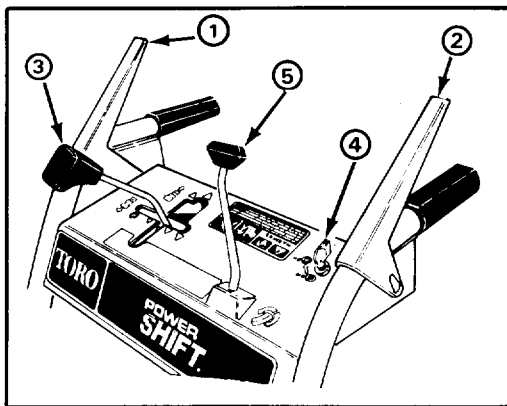

Figure 9.
Auger/Impeller Control (Fig. 9) — Control has two positions: ENGAGE and DISENGAGE. To engage auger and impeller, compress lever against right handle grip. To disengage, release lever.
Traction Drive Control (Fig. 9) — To engage traction or activate power shift system, lever must be compressed against left handle grip. To stop traction, release lever.
Speed Shift Control (Fig. 9) — The control has four speeds forward and two reverse. To select speeds, move shift control to desired position.
Auger Lock-Up (Fig. 9) — When auger/impeller control and traction drive control are both compressed, the traction control locks the auger/impeller control down. Releasing the traction control releases the auger/impeller.
Discharge Chute Control (Fig. 9) — Rotate discharge chute control clockwise to move discharge chute to the right and counterclockwise to move chute to the left.
Ignition Switch (Fig. 9) — Switch has two positions: ON and OFF. Rotate key to ON position before starting engine. To stop engine, rotate key to OFF.
1. Move speed shift control to N (neutral) and throttle to FAST (Fig. 9).
4. Rotate ignition key to ON (Fig. 9).
1. Release traction and auger/impeller drive controls (Fig. 9).